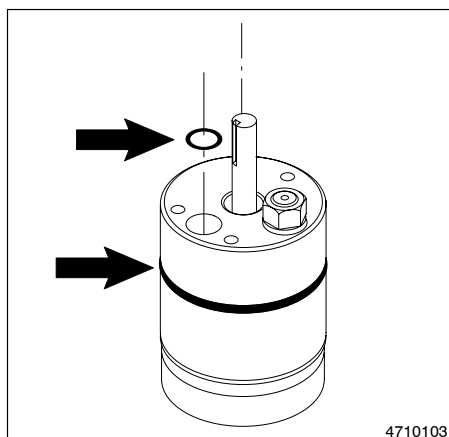

Fig. 7-22 Removing the Pump Body O-rings
5. See Figure 7-22. Remove and discard the pump body O-rings.